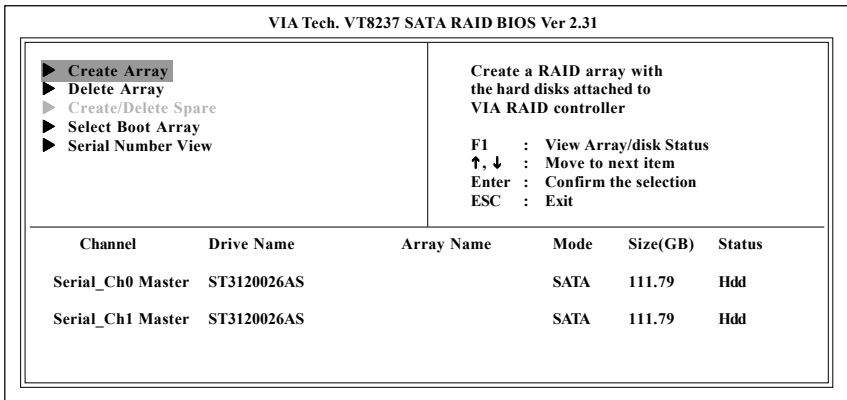

Figure 4
- 2 In the VIA VT8237 SATA RAID BIOS User Window (Figure 4), use arrow keys to select Create Array and press <Enter> to enter the RAID configuration screen where you may choose the RAID array type and which hard drives you want to make part of the array.